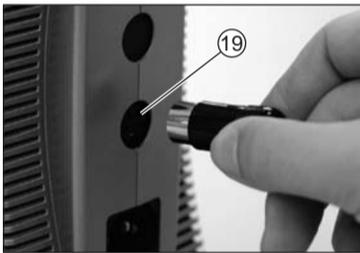

Fig. 5
Insert Foot Control⑯ plug in Foot Control Connector⑲ at the back of the control unit. (Fig. 5)